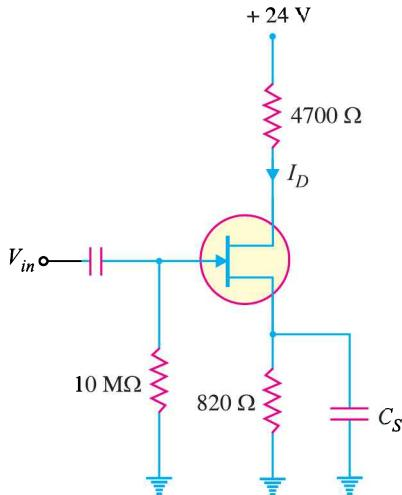

Fig. 19.64
- In the JFET circuit shown in Fig. 19.64 if $I_D = 1.9 \text{ mA}$, find V_{GS} and V_{DS} .